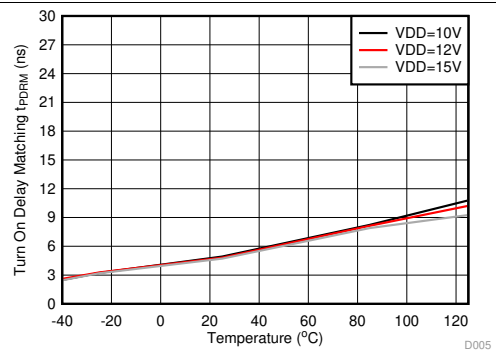

图 6. Turn-On Delay Matching vs Temperature
The level shift circuit (refer to the Functional Block Diagram) is the interface from the high-side input to the high-side driver stage which is referenced to the switch node (HS). It is a pulsed generated level shifter. With an input signal the pulse generator generates "on" pulses based on the rising edge of the signal and "off" pulses based on the falling edge. On pulses and off pulses turn on each branch of the level shifter so that current flows in each branch to generate different voltages, which is transferred to the set and reset signal in the high side. The signal is rebuilt by the RS latch in the high side domain. The level shift allows control of the HO output referenced to the HS pin and provides excellent delay matching with the low-side driver. The delay matching of UCC27712-Q1 is summarized in Figure 6 and Figure 7.